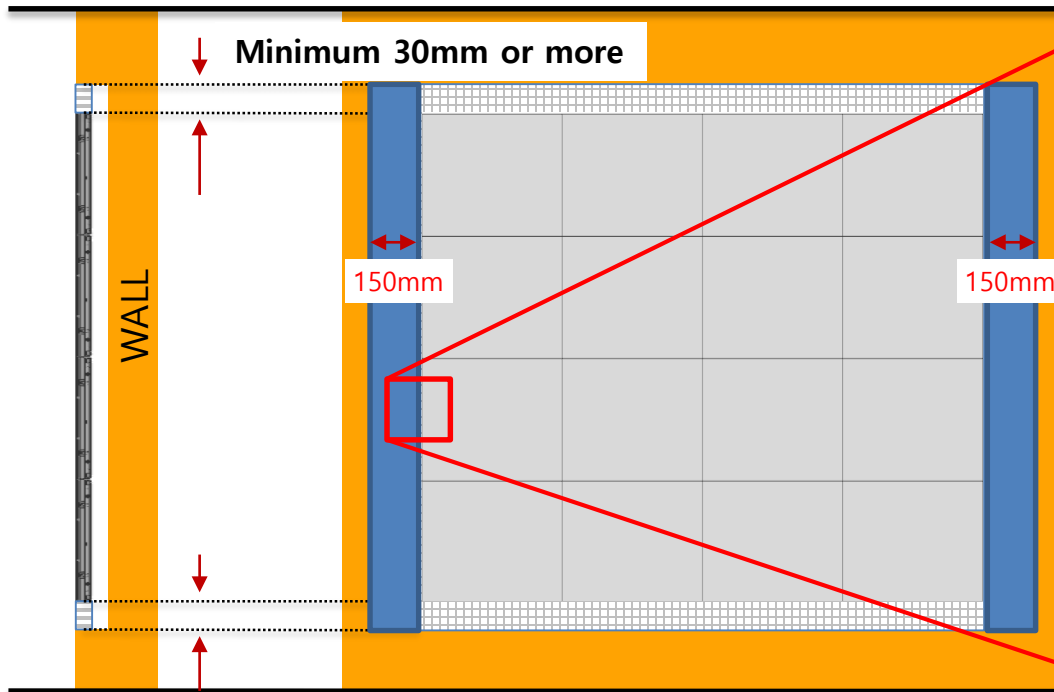

Fig.1 Left and right spaces over 150mm
- 150mm left and right space is required for service. (Fig.1)